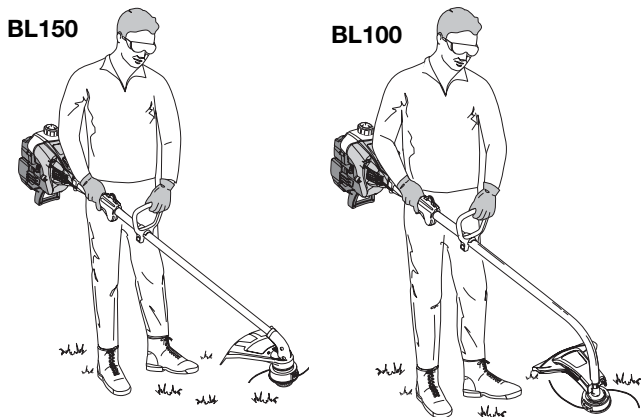

Fig. 9
4. While holding the unit in the operating position (Fig. 9), position the D-handle to the location that provides you the best grip.
Before operating the unit, stand in the operating position (Fig. 9). Check for the following: